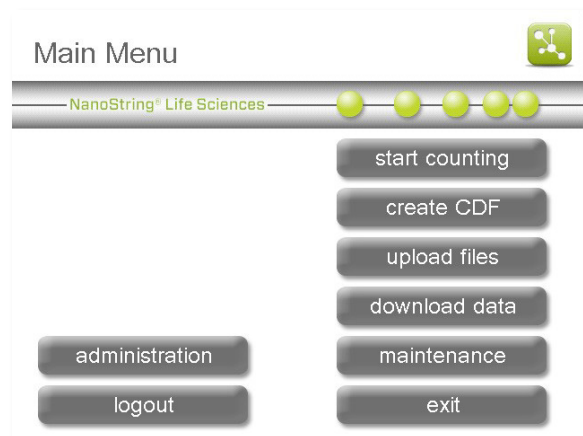

Figure 83: The Main Menu.
1. From the Main Menu (Figure 83) select **start counting**.